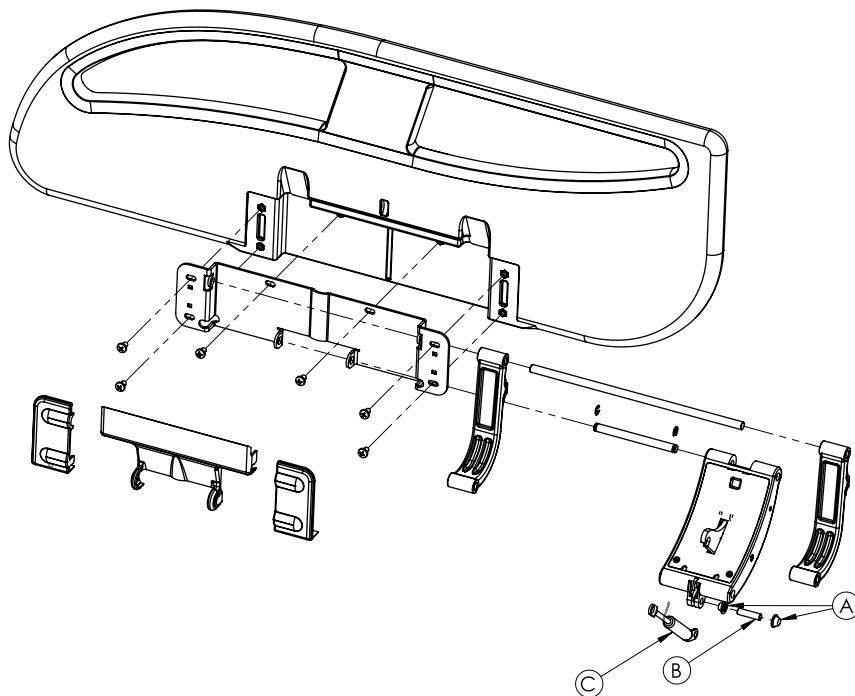

Figure 8: Head end siderail gas cylinder
6. Using a large flat screwdriver and a hammer, remove one of the push nuts (A) that secures the bottom of the head end siderail gas cylinder (C) to the siderail mechanism (Figure 8 on page 47).
7. Remove the pivot pin (B) (Figure 8 on page 47).
8. Remove and discard the head end siderail gas cylinder (C).